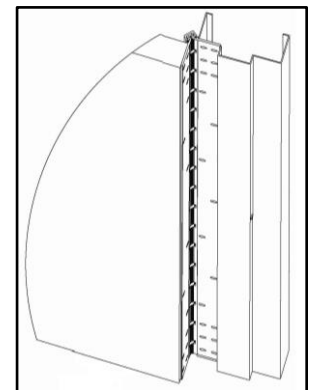

Fig. 3
1. Position the door (with hinge attached) at 90° to the frame. Attach the hinge to the frame rabbet (See Fig. 3). For metal frames, use the #12 self-drilling screws provided (recommended driver speed 1,900-2,500 RPM). For wood frames, use optional #12 wood screws.